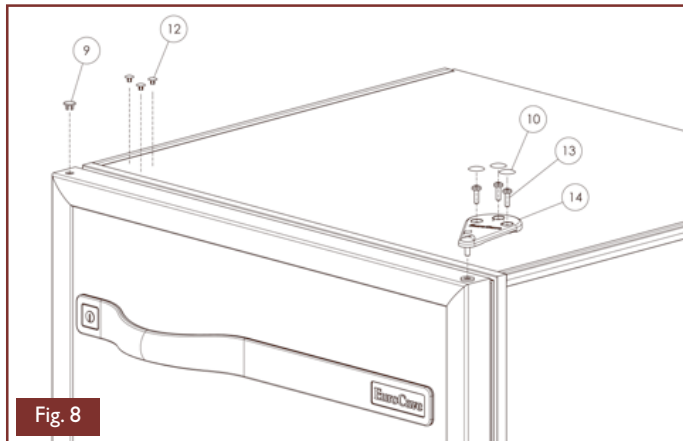

Fig. 8
- Remove the grommets (9-10-12) gently using a fine blade, see Fig. 8
- Loosen the three screws (13) using the "Torx T25" tool provided in the accessory box, see Fig.8.
- Remove the upper hinge (14), see Fig. 8.